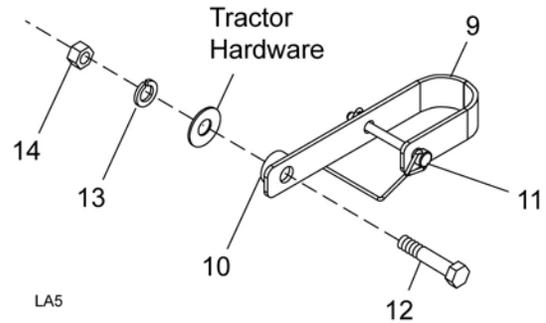
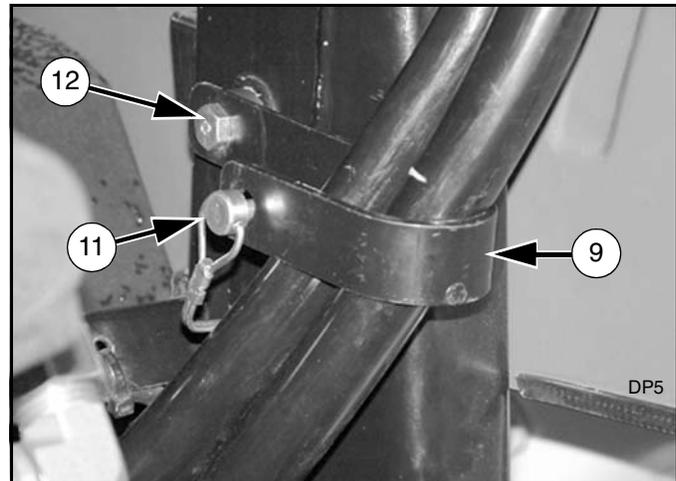

Figure 48. Hose Hanger Installation
Figure 49. Hose Hanger Installed
3. Attach hose hanger (9), using spacer (10), cap screw (12), flat washer (from tractor), lock washer (13), and nut (14) as shown in Figure 48 and Figure 49.
4. Route PRESSURE and PBY hoses through hanger as shown in Figure 49.
5. Secure hoses into position using lock pin (11).